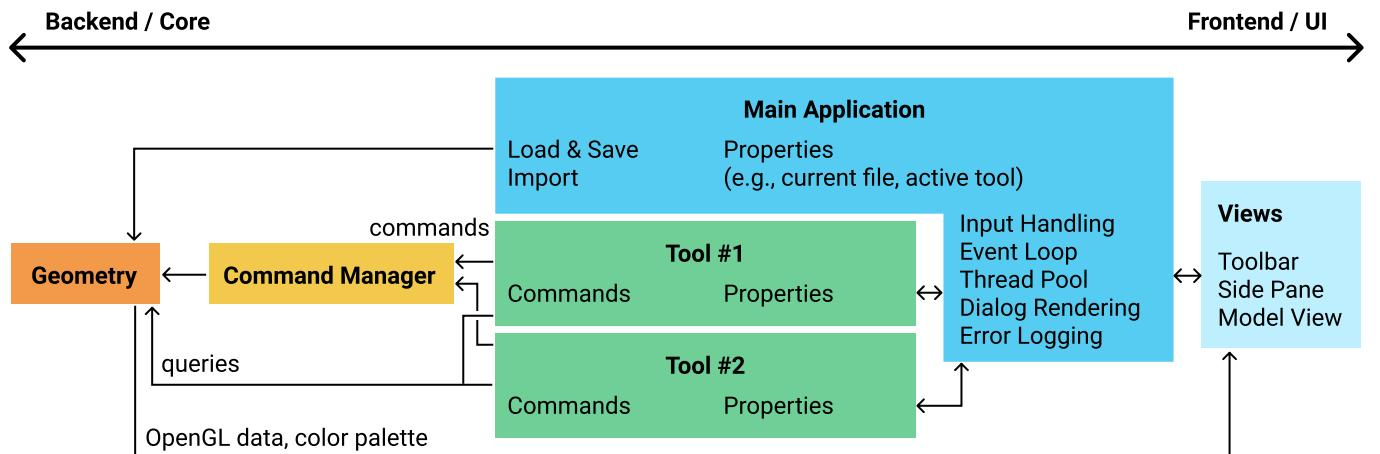

Figure 3.1: An overview of the Pepr3D architecture.
The following Figure 3.1 illustrates the main components in the architecture of the Pepr3D application. Each colour represents a separate component, while the arrows denote how data typically flow and how components usually communicate.
During the development we tried to separate the components as much as possible. Since our application is pretty basic, the pipeline is still connected quite a lot. We hope that this design is extendible though, and if the need arises, new components can be easily inserted into the overall architecture as illustrated in Figure 3.1.
2. **Selecting the Bucket Painter** is, according to Figure 3.1, a change of the MainApplication's property. This is done via the Toolbar view. Upon selecting the new tool, when the next frame starts rendering, the SidePane will query the MainApplication object for the current tool, which will be the Bucket Painter. The SidePane will then let the Bucket Painter render its own settings within the SidePane.